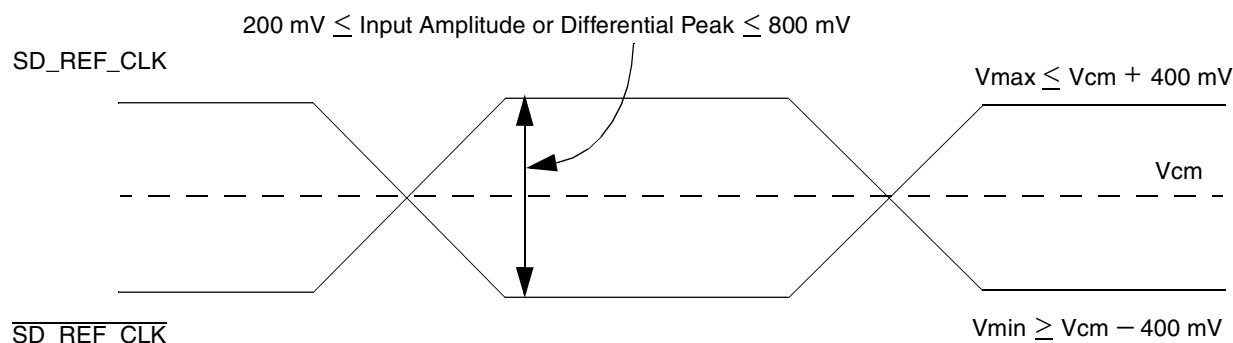

**Figure 42. Differential Reference Clock Input DC Requirements (External AC-Coupled)**
- For **external AC-coupled** connection, there is no common mode voltage requirement for the clock driver. Since the external AC-coupling capacitor blocks the DC level, the clock driver and the SerDes reference clock receiver operate in different command mode voltages. The SerDes reference clock receiver in this connection scheme has its common mode voltage set to SCOREGND. Each signal wire of the differential inputs is allowed to swing below and above the command mode voltage (SCOREGND). Figure 42 shows the SerDes reference clock input requirement for AC-coupled connection scheme.